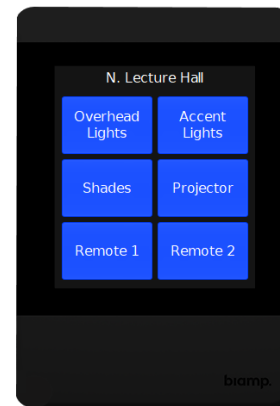

Figure 8. 6-Button Layout
- The buttons may be configured via the Control Pad Designer in the Tesira software. There are many configuration possibilities. The Control Pad Designer allows for customizing the interface to match the physical device color as well button color, text, etc. Examples of color and layout are shown in Figures 8 and 9.